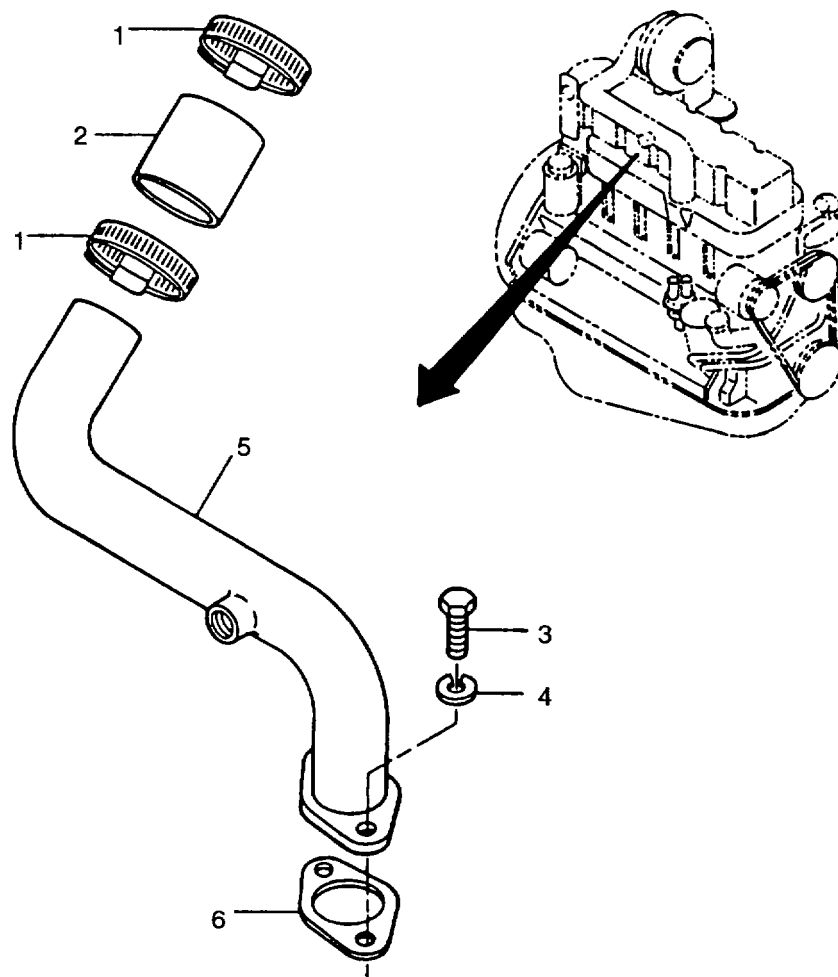

FIGURE 3-45. Intake Manifold
- Loosen two clamps (1, FIGURE 3-45) securing hose (2) to turbocharger and air inlet elbow (5). Remove clamps and hose.
- Remove two capscrews (3) and lockwashers (4) securing air inlet elbow (5) to cylinder head. Remove elbow and gasket (6); discard lockwashers (4) and gasket (6).
- Position new gasket (6, FIGURE 3-45) and air intake elbow (5) on cylinder head and secure with two capscrews (3) and new lockwashers (4). Tighten capscrews to 35 ft-lbs (47 Nm).
- Ensure hose (2) is in good condition and install it between turbocharger and air intake elbow (5) and secure with two clamps (1).